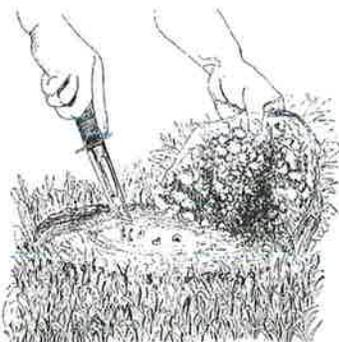

Figure 3-13. Cutting back the turf is a good way to look for grubs.
- Grab hold of the turf and pull up. If the turf breaks off easily, look for the sawdust-like waste of billbugs. If the turf pulls up, cut a flap and sift through the soil for white grubs (Figure 3-13).